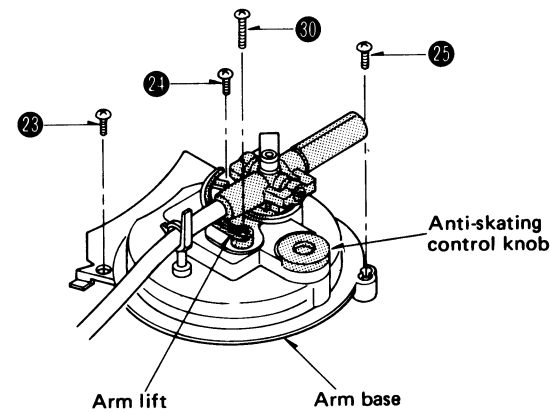

Fig. 6
2. Remove the arm base setscrews 23 ~ 25. Then, the arm base can be removed. (See Fig. 6)
6. When removing this lift base plate, remove the arm lift setscrew 30 before turning over the arm base, and then remove the arm lift. (See Fig. 6)
7. Remove the anti-skating control knob. (See Fig. 6)